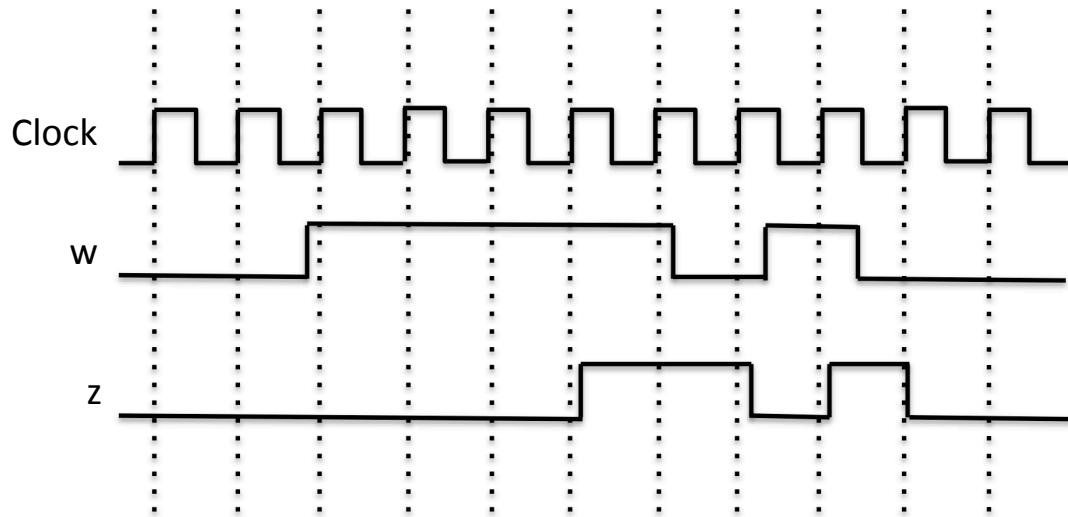
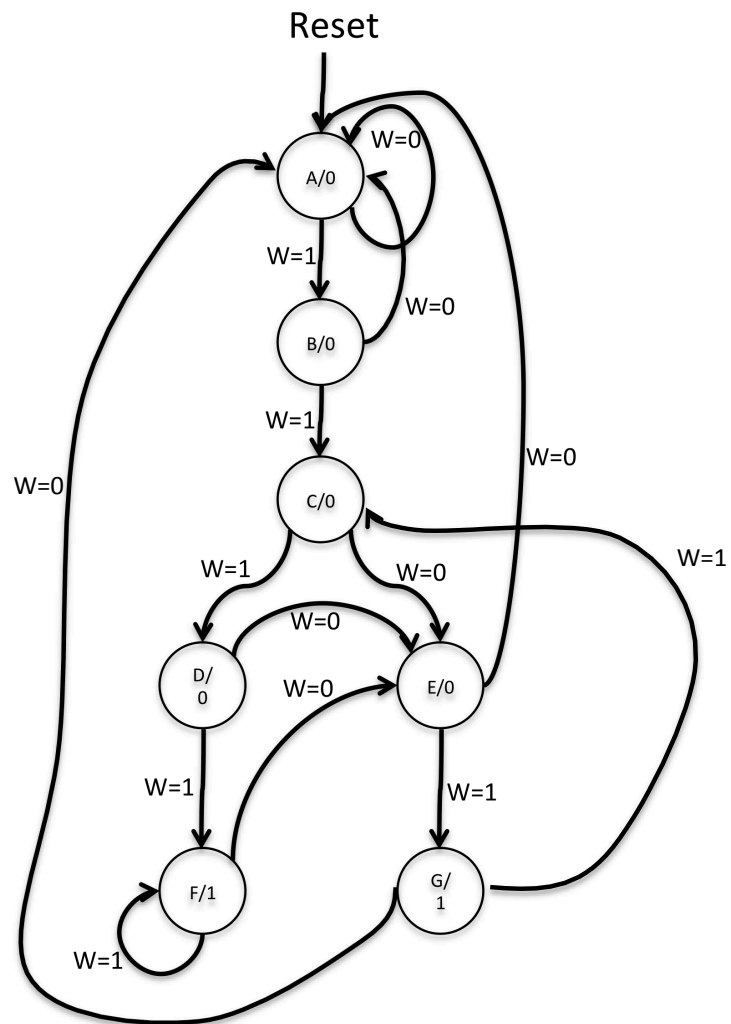

Figure 1: Required timing for the output z .
Figure 2: A state diagram for the FSM.
Given an input w and an output z , the output z is set to 1 Whenever $w = 1$ for four consecutive clock pulses, or when the most recent sequence on w was 1101 for the last four clock pulses. In all other cases, $z = 0$. Overlapping sequences are allowed, so that if $w = 1$ for five consecutive clock pulses the output z will be equal to 1 after both the fourth and fifth pulse. Figure 1 illustrates the required relationship between w and z . A state diagram for this FSM is shown in Figure 2.
2. Before modifying the Logisim starter circuit, assign flip-flop values to each of the states in Figure 2 and create a state table that illustrates the state transitions in response to the input signal *w*.